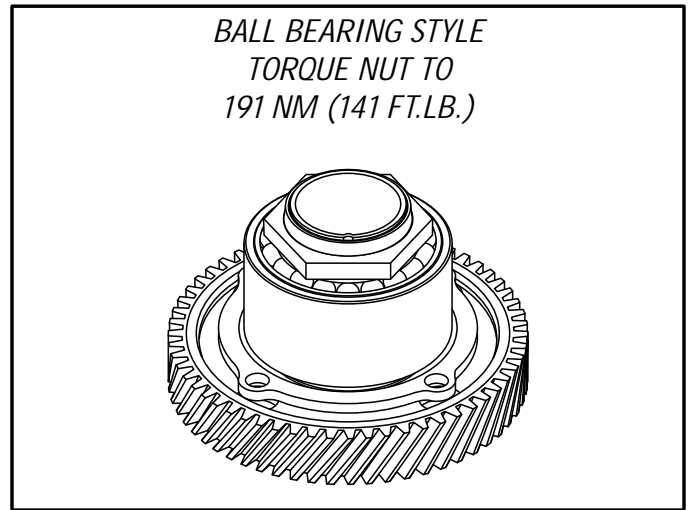

Figure 63
1. If you are servicing ball bearing style, install the ball bearings and torque the lock nut to 191 N·m (141 ft.lb.), as shown in Figure 63.